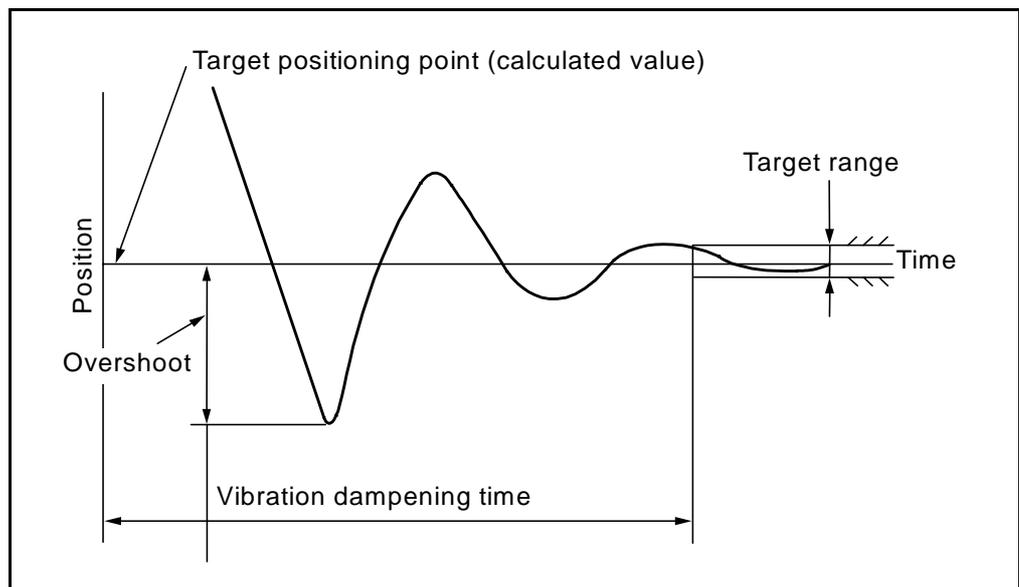

Figure 1-32 Vibration Dampening Time
3. After the robot moves to and passes the target positioning point, vibration will be dampened and the robot positioned at the target positioning point as shown in Figure 1-32. This vibration dampening time is not considered in the graph.
- Caution (1)** The vibration dampening time depends on factors such as the weight of the end-effector. If the robot is to be used in such a way that it overshoots or if the vibration dampening time is of great concern, test the robot carefully beforehand.